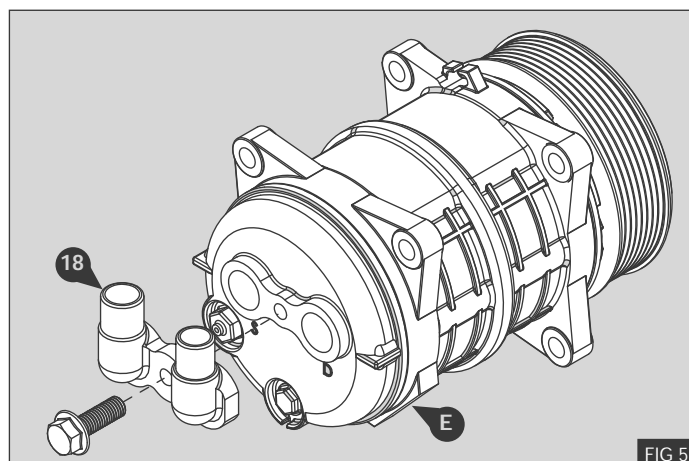

FIG 5
1. Remove the compressor ear (E) detailed in the drawing - Fig 5.
2. Fit the supplied manifold (18) - Fig 5